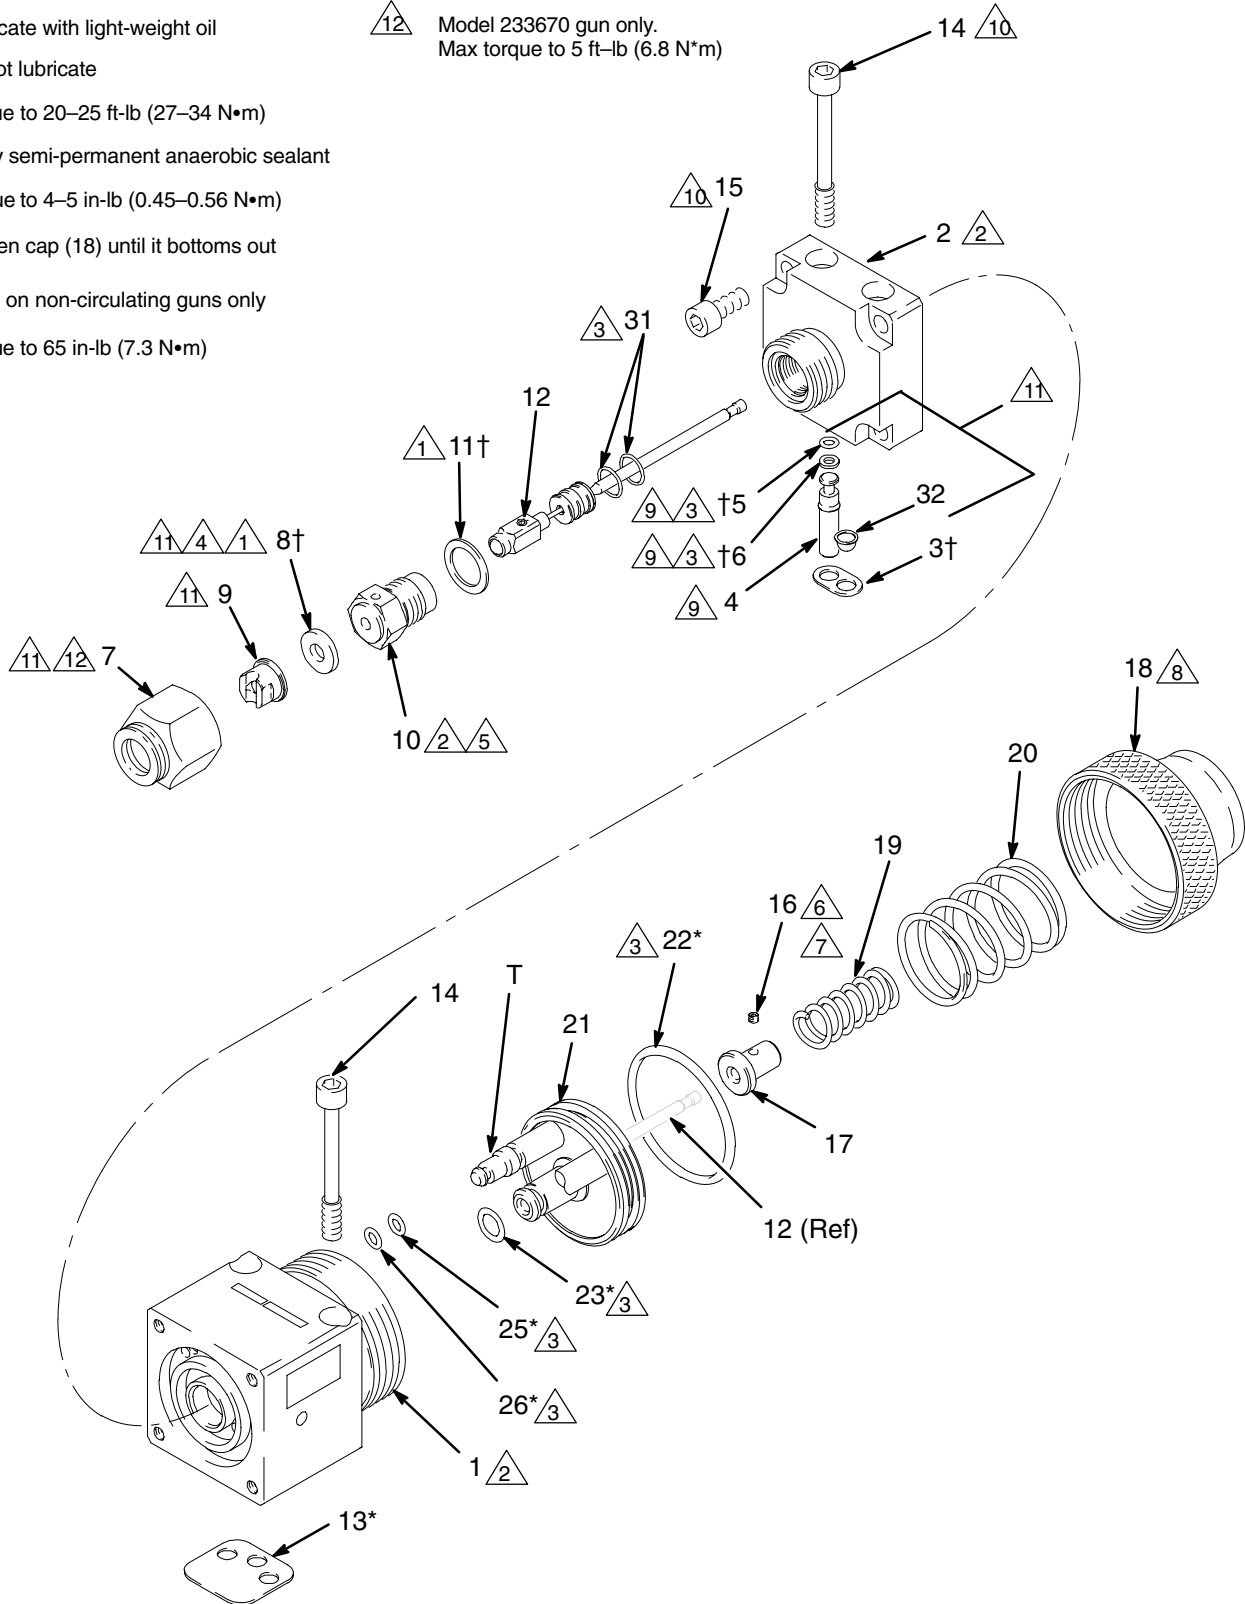

Fig. 9
- *Non-circulating Paint Guns:* Lubricate the backup (6†) and o-ring (5†) and install them on the fluid outlet port plug (4). Install the plug in the fluid outlet port of the fluid housing (2). See Fig. 9.
- *Circulating Paint Guns:* Reinstall the filter (32) in the fluid inlet port and the gasket (3) in the fluid housing (2).
- *Sealant Gun:* Reinstall gasket (3).
2. Install the o-rings (22*, 23*) on the piston (21). Install two o-rings (25*, 26*) on each of the piston stems (T). Lubricate all the o-rings, the piston, and the piston stems.
3. Insert the piston (21) into the piston housing (1).
4. Remove the protective paper from the sticky side of the gasket (13*) and adhere the gasket to the bottom of the piston housing (1), making sure the three holes in the gasket are properly aligned with the matching holes in the housing.
5. Install the fluid housing (2) on the piston housing (1). Torque the four screws (15) to 65 in-lb (7.3 N•m).